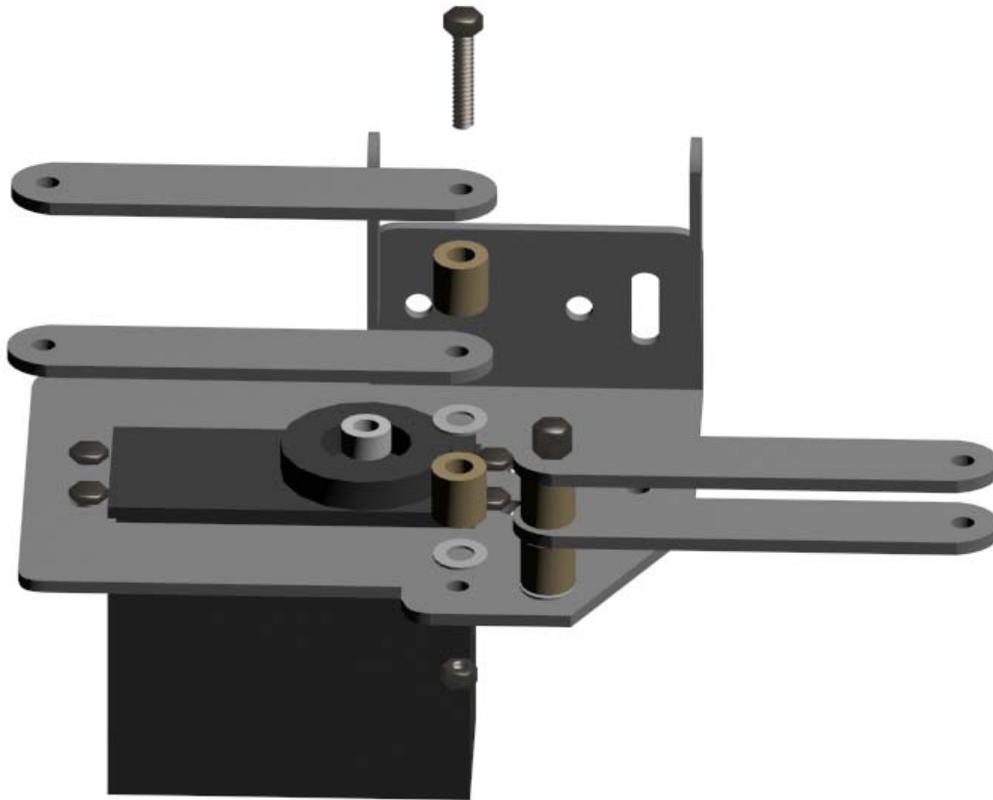

Figure 19
13. Perform the same assembly routine as outlined in the previous step for the opposite side of the gripper assembly as shown in figure 19 and 20.